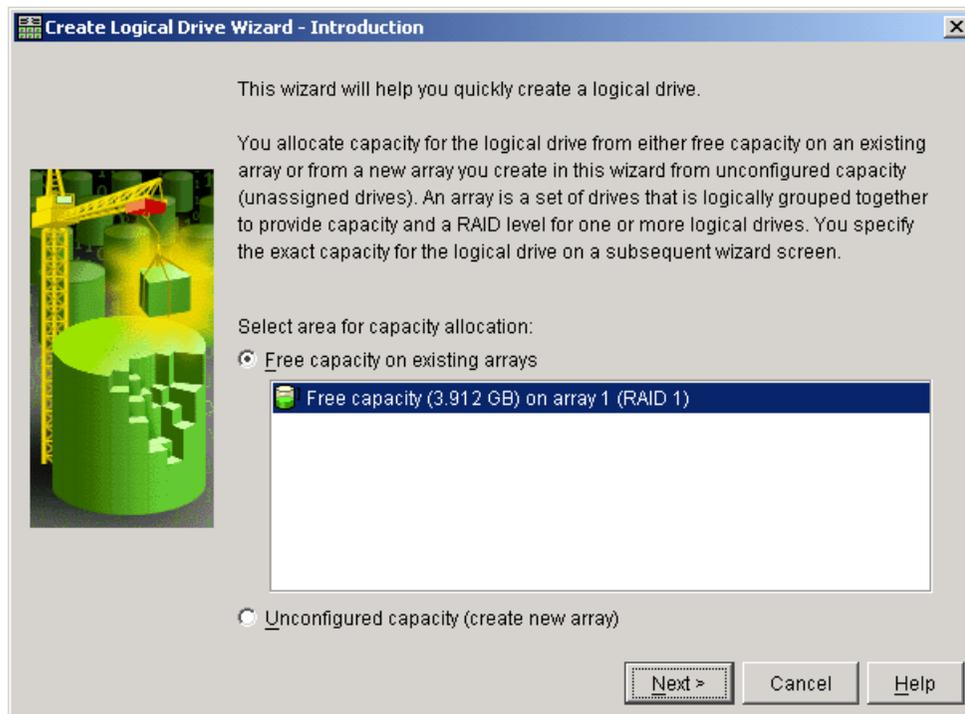

Figure A-6 Create logical drive
6. After entering the correct password, you can proceed with creating a logical drive, as shown in Figure A-6: